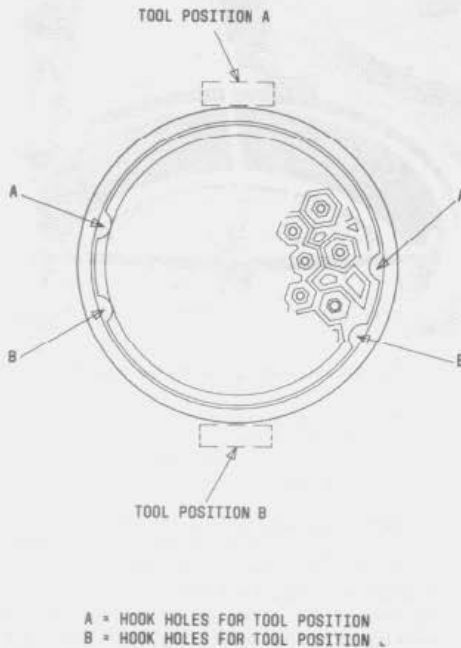

Fig. 21—Selection of Tool Position and Appropriate Hook Holes
- (2) Select one of the two tool positions in Fig. 21 and insert sling hooks into hook holes indicated. Place the tool fulcrum on the frame and center between the two hook holes (Fig. 21).